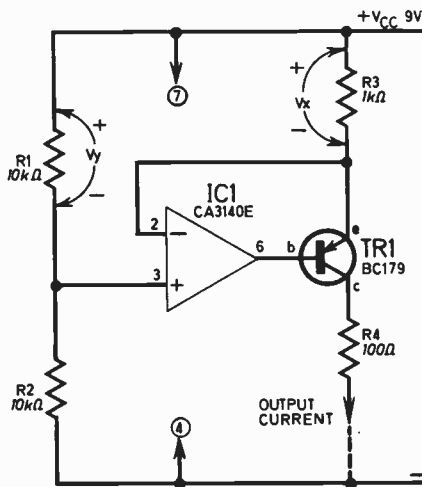

Fig. 6.13. Current source circuit.
- Q6.1 The circuit shown in Fig. 6.13 is designed to fix TR1 emitter current at a value set by R1, R2 and R3.